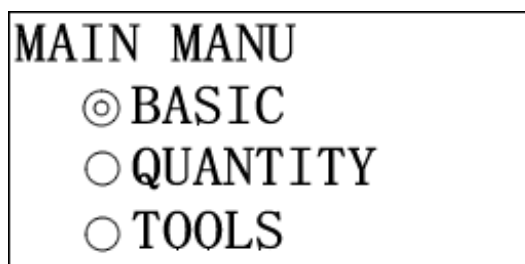

Fig. 4-1
Step 1, Choose “**BASIC**” by up and down key, ENTER to confirm. (Fig. 4-1)